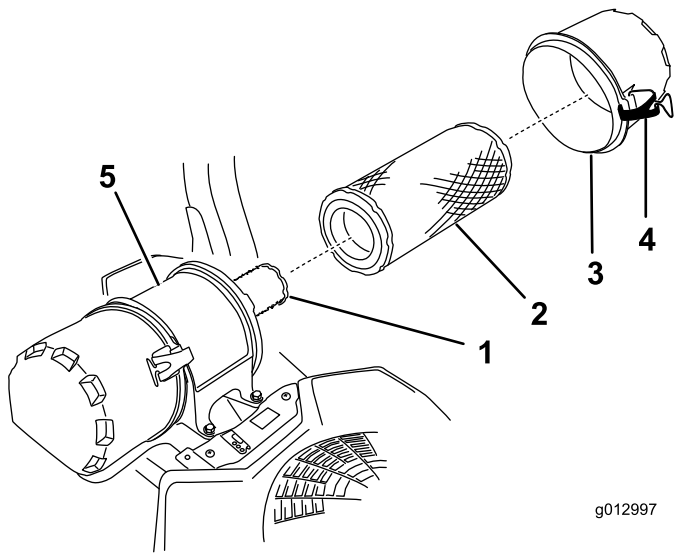

Figure 57
6. Release the latches on the air cleaner and pull the air-cleaner cover off the air-cleaner body (Figure 57).
8. Gently slide the primary filter out of the air-cleaner body (Figure 57).
- If you are replacing the safety filter, carefully slide it into the filter body (Figure 57).
- Carefully slide the primary filter over the safety filter (Figure 57).
- Install the air-cleaner cover and secure the latches (Figure 57).